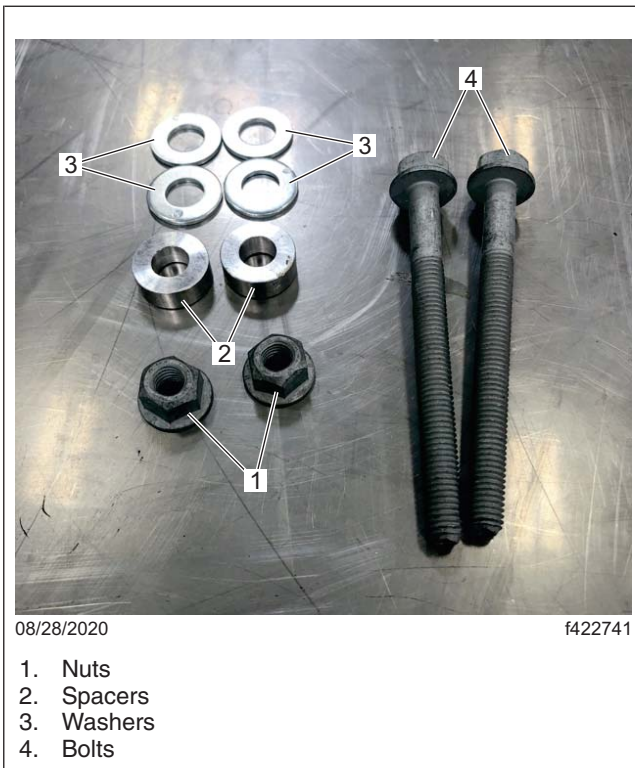
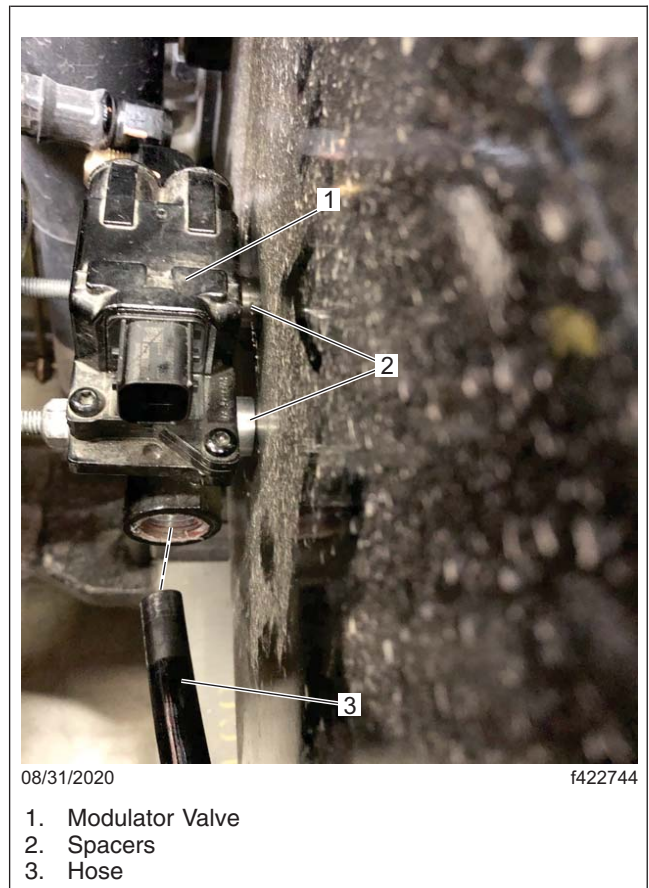
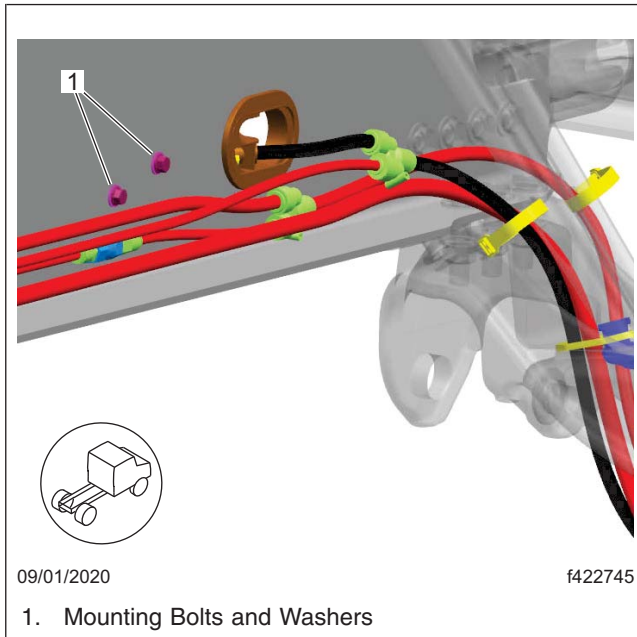
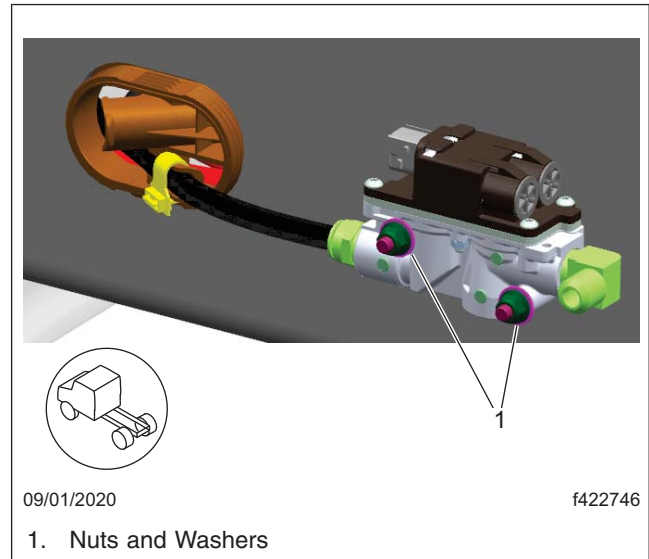

Fig. 10, 25-FL958-000 Kit Components
Fig. 11, Installing the Spacers
Fig. 12, Modulator Valve Fasteners, Inside Frame Rail View
Fig. 13, Modulator Valve Fasteners, Outside Frame Rail View
11. Use a 1/2-inch socket wrench along with the new bolts, spacers, and washers (supplied in the kit) to install the modulator on the vehicle. Tighten the bolts 11 lbf-ft (15 N·m). See Fig. 10, Fig. 11, Fig. 12, and Fig. 13.